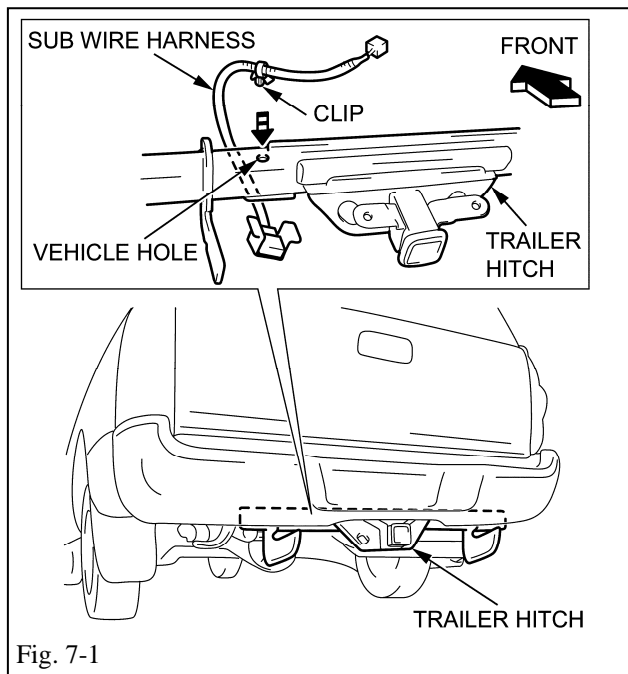

Fig. 7-1
- (1) Secure the sub wire harness clip to the trailer hitch plug. (Fig. 7-1)